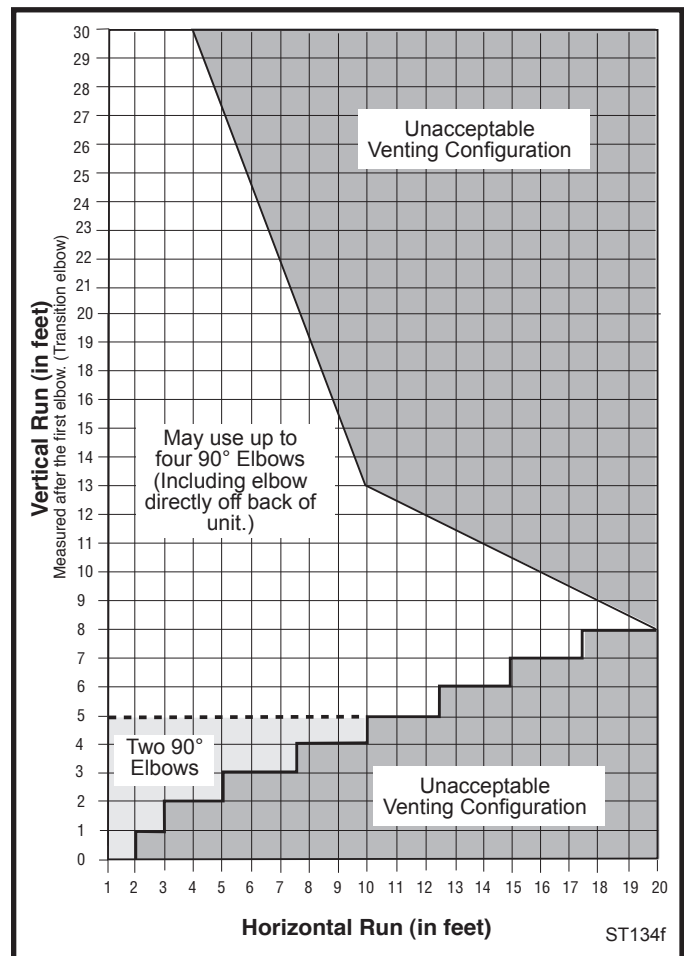

Fig. 7 Horizontal vent termination window.
The vent must rise vertically a minimum of 24" (610 mm) after the first elbow directly off the back of the unit, before the next elbow. The horizontal run may extend up to 20' (6 m) and include a vertical rise of up to 40' (12 m). (Fig. 7) Horizontal termination must also meet the criteria shown in Figures 11 and 12.
- Approved vent systems must terminate above and including the heavy line in Figure 7.